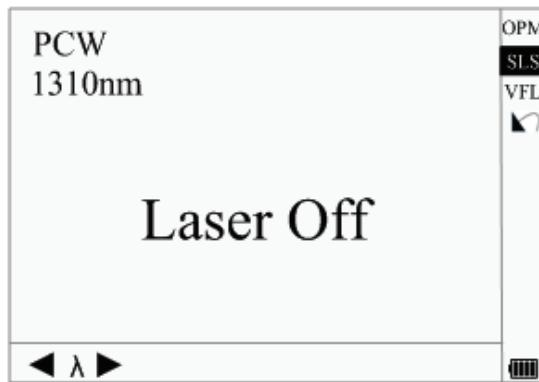

Figure 4-12. Stabilized Laser Source
- Enter PM/LS interface as described in "Power Meter, Laser Source, and VFL Configuration" in Section 3. Use ▲ and ▼ to highlight "SLS", and press Enter to enter SLS interface (Figure 4-12).